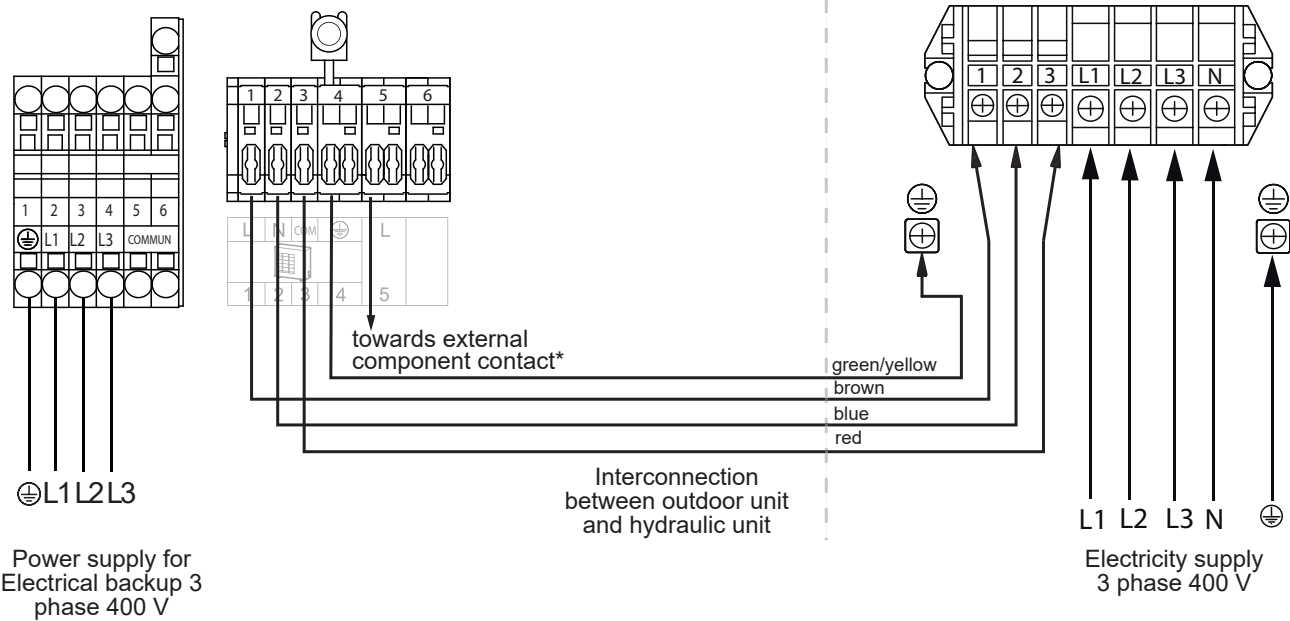

fig. 41 - Connection to terminal blocks and power relay
- Make the connections according to the diagram(s) *fig. 41, page 40.*
- Make the connections according to the diagram(s) fig. 41, page 40.
- Make the connections according to the diagram (*fig. 41, page 40*).